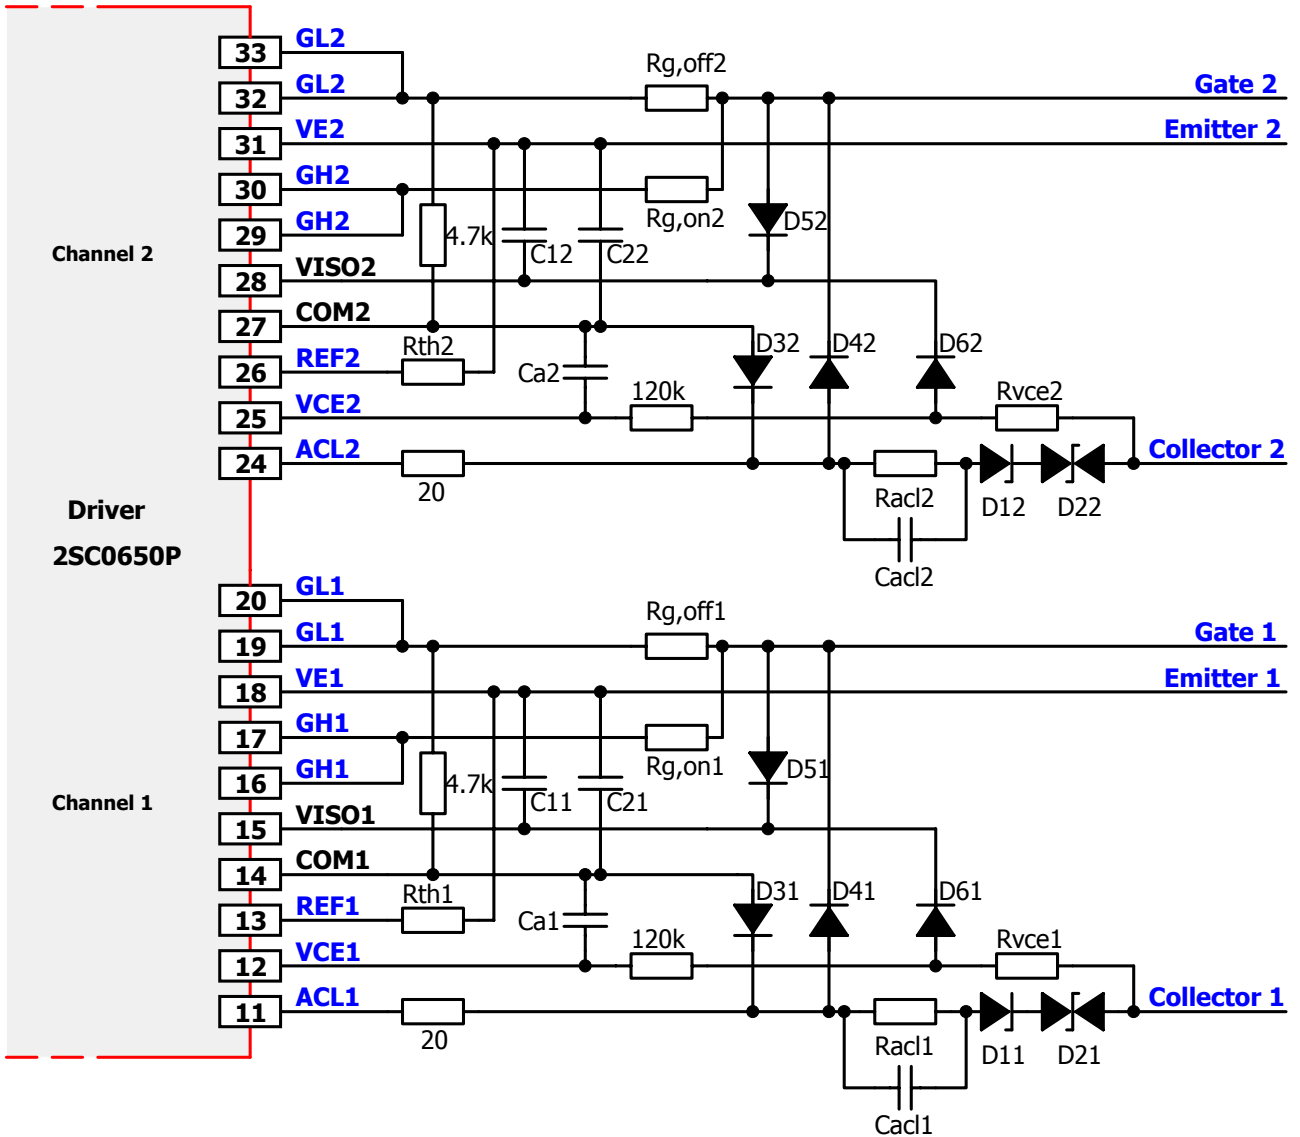

Fig. 6 Recommended user interface of 2SC0650P with advanced active clamping (secondary sides)
Power semiconductors with a gate charge of up to $3\mu\text{C}$ can be driven without additional capacitors on the secondary side. For IGBTs or MOSFETs with a higher gate charge, a minimum value of $3\mu\text{F}$ external blocking capacitance is recommended for every $1\mu\text{C}$ gate charge beyond $3\mu\text{C}$. The blocking capacitors must be placed between VISOx and VEx (C_{1x} in Fig. 6) as well as between VEx and COMx (C_{2x} in Fig. 6). They must be connected as close as possible to the driver's terminal pins with minimum inductance. It is recommended to use the same capacitance value for both C_{1x} and C_{2x} . Ceramic capacitors with a dielectric strength $>20\text{V}$ are recommended.
The collector sense must be connected to the IGBT collector or MOSFET drain with the circuit shown in Fig. 6 in order to detect an IGBT or MOSFET overcurrent or short-circuit.
Basic active clamping topologies implement a single feedback path from the IGBT’s collector through transient voltage suppressor devices (TVS) to the IGBT gate. The 2SC0650P supports CONCEPT’s advanced active clamping, where the feedback is also provided to the driver’s secondary side at pin ACLx: as soon as the voltage on the right side of the 20Ω resistor (see Fig. 6) exceeds about 1.3V, the turn-off MOSFET is progressively switched off in order to improve the effectiveness of the active clamping and to reduce the losses in the TVS. The turn-off MOSFET is completely off when the voltage on the right side of the 20Ω resistors (see Fig. 6) approaches 20V (measured to COMx).
It is recommended to use the circuit shown in Fig. 6. The following parameters must be adapted to the application:
- The first mode is the default IGBT setup with both a positive (regulated) turn-on voltage of 15V (typical) and a second (non-regulated) turn-off voltage (see Fig. 6).
Each channel of the 2SC0650P driver is equipped with a V_{ce} monitoring circuit. The recommended external circuitry is shown in Fig. 6. A resistor (R_{thx} in Fig. 6) is used as the reference element for defining the turn-off threshold. The value of the current through R_{thx} is 150μA (typical). It is recommended to choose threshold levels of about 10V (R_{thx} values around 68kΩ). In this case the driver will safely protect the IGBT against short-circuit, but not necessarily against overcurrent. Overcurrent protection has a lower timing priority and is recommended to be realized within the host controller.